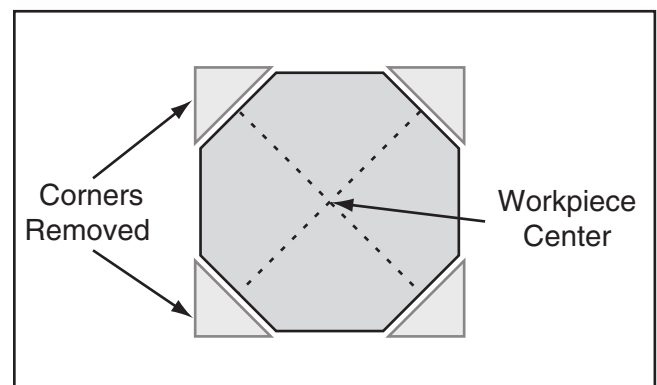

Figure 29. Corners of workpiece removed.
5. If your workpiece is over 2" x 2", cut corners off workpiece lengthwise to make turning safer and easier (see **Figure 29**).